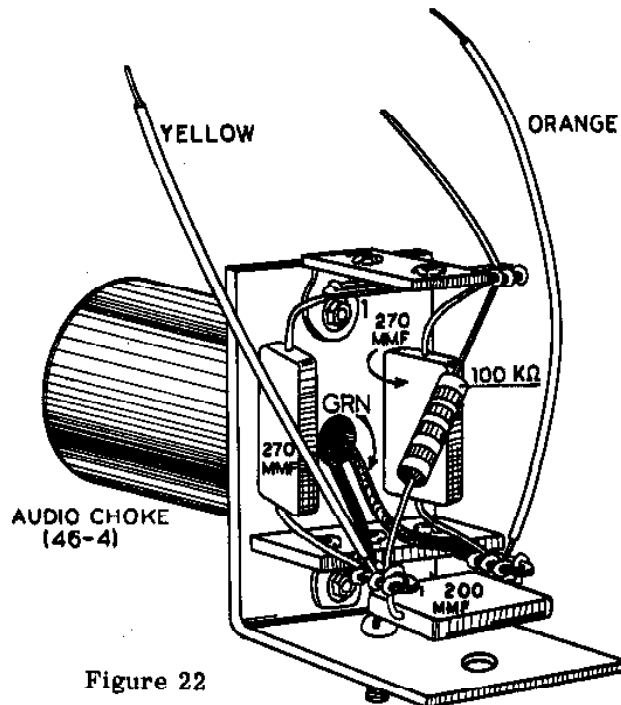

Figure 22
- (✓) At the end with the blue and orange wires and the shield pigtail, connect the orange wire to control lug HJ-2 (S1) and the blue wire to HJ-3 (S1). Connect the shield through HJ-1 (NS) to the control ground lug (S1). Now solder HJ-1 (S1).
- (✓) Connect the negative lead of a 10 mf, 25 V electrolytic to solder lug HK (S2). Position the capacitor as shown and, using sleeving, pass the other lead through V8-3 (S1) and then, using sleeving, to V8-8 (NS).
- (✓) Connect the leads from the strip pack as follows: white to V7-1 (S1); blue to V7-6 (S1); orange to V8-2 (S2); green to V8-1 (S1); red through V10-2 (NS) to V10-1 (NS); violet to V10-5 (S1); black to V8-8 (S2); and gray to V8-6 (S1). Now solder V10-2 (S1).
- (✓) Connect the blue lead from the driver transformer through V9-8 (NS) to V9-7 (S1). Now solder V9-8 (S1).
- (✓) Locate the audio filter mounting bracket. This is the small L shaped bracket illustrated in Figure 22. As shown, mount the audio choke, 46-4, on the face with the three holes, using #3-48 x 1/4" PHMS. Pass the choke leads through the center hole. Mount a 2 lug, (no ground) terminal strip on the mounting screw near the bend. Clip the mounting lug of the terminal strip with wire cutters for clearance. Mount a 1 lug (no ground) terminal strip on the other mounting screw.
- (✓) Connect one lead from the choke to lug 1 of the 2 lug strip (NS).
- (✓) Connect the other lead from the choke to lug 2 of the 2 lug strip (NS).
- (✓) Connect a 200 mmf (red-black-brown) mica capacitor between lug 1 (NS) and lug 2 (NS) of the 2-lug terminal strip, positioning as shown to hold the #6 screw in place.
- (✓) Connect a 270 mmf mica capacitor between lug 1 of the 2 lug terminal strip (NS) and lug 1 of the 1 lug strip (S1).
- (✓) Connect a 270 mmf mica capacitor between lug 2 of the 2 lug terminal strip (NS) and lug 2 of the 1 lug strip (NS).
- (✓) Connect a 100K ohm (brown-black-yellow) 1/2 watt resistor between lug 1 of the 2 lug strip (NS) and lug 2 of the 1 lug strip (NS).